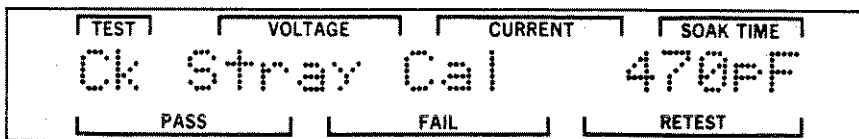

Figure 5-13. Check Test Stray Calibration Screen
- STEP 16. Press the INC and DEC pushbuttons simultaneously to enter the Configure mode. Press the DOWN pushbutton until the Check Test Stray Calibration screen is displayed. Figure 5-13 is an example of this screen.